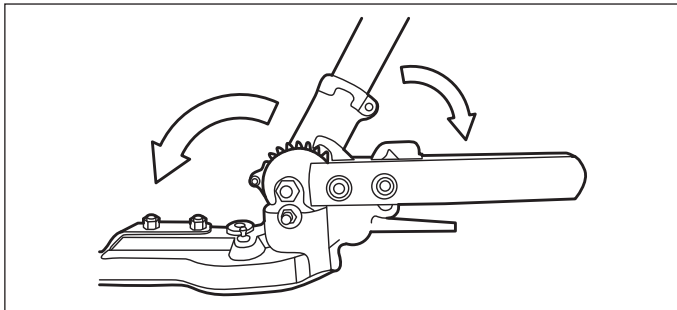

Fig. 15b
- b). Move the hedge trimmer shaft (C4) with the other hand until the desired angle is reached. (See Fig. 15b)